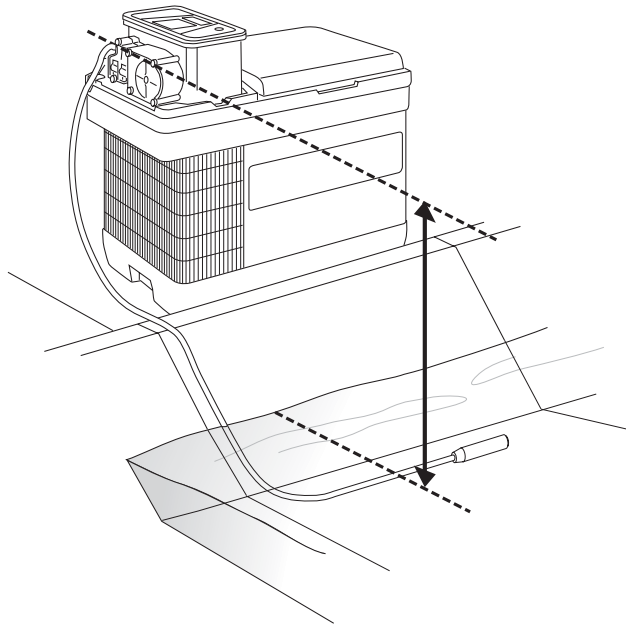

Figure 2-8 Measuring Suction Head Height
1. Measure the Suction Head height (Figure 2-8).